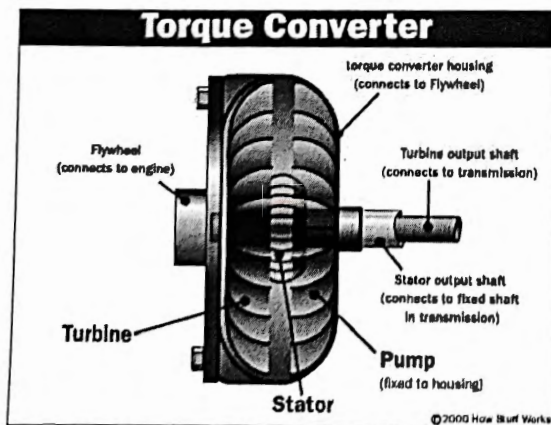

Figure 4
- c) Figure 4 below shows a torque converter used in automatic transmission. State the key components of the torque converter.